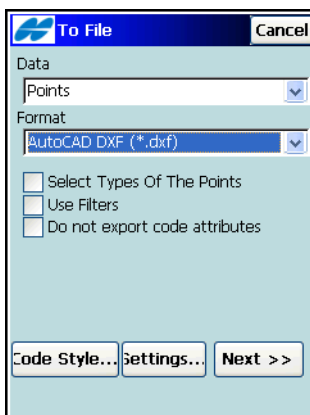
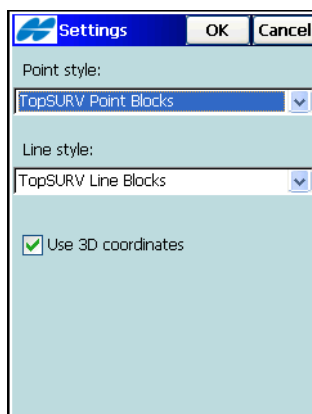

Figure 5-33. AutoCAD DXF
Figure 5-34. Settings
1. When exporting points to the *AutoCAD DXF* or *AutoCAD Drawing* format, you can select an option not to export code attributes on the **To File** screen (Figure 5-33).
2. Tap the **Code Style** button on the **To File** screen (Figure 5-33) to set a format for point properties (*codes*, *control codes*, *strings*, and *notes*) to export to the file. The **Settings** screen displays (Figure 5-34 on page 5-24).
3. Select *point/line styles* and check and enable the Use 3D coordinates box to use 3D coordinates, then tap the **Settings** button (Figure 5-34).